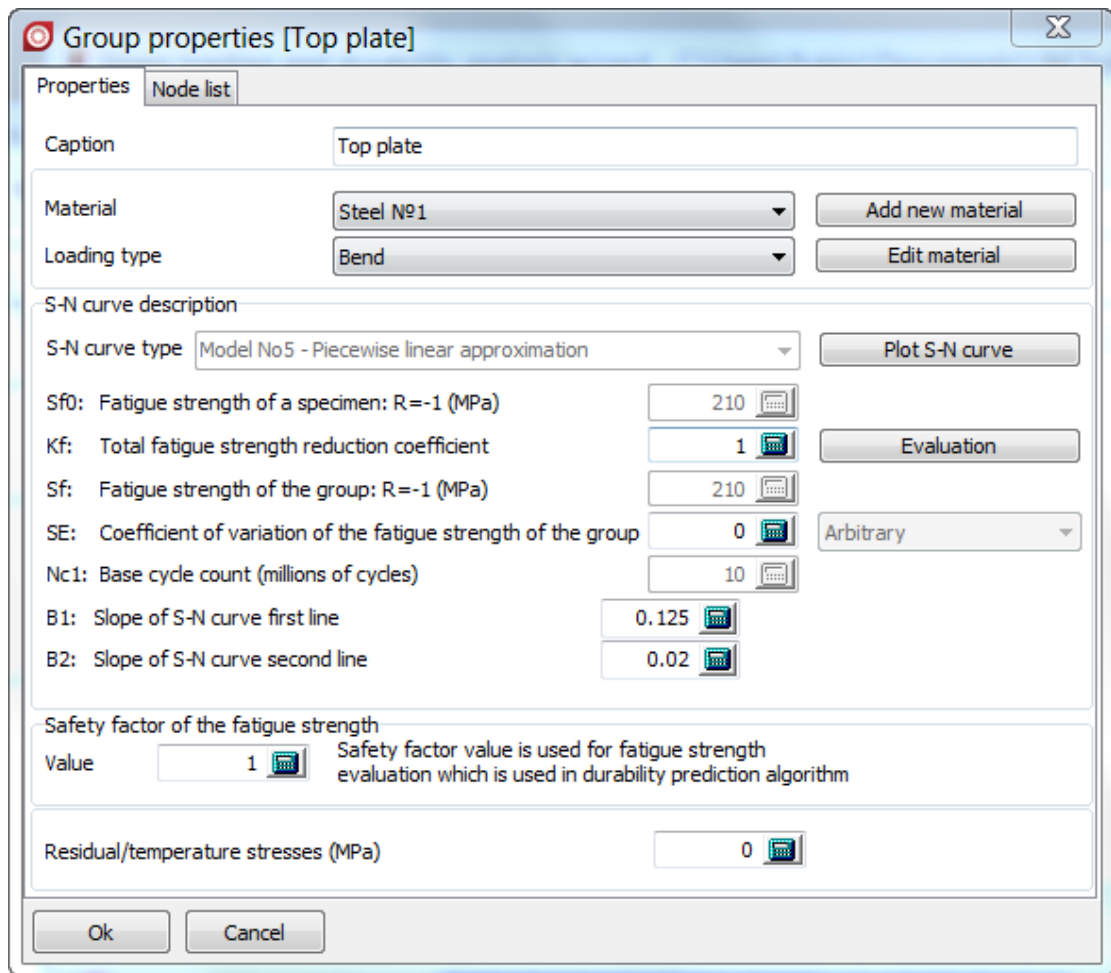

Figure 2.32. Group properties initialization: Top plate group
11. Select **Bend** from the **Loading type**, see Figure 2.32.
14. Click **Ok** to save **Top plate** control area data, Figure 2.32.